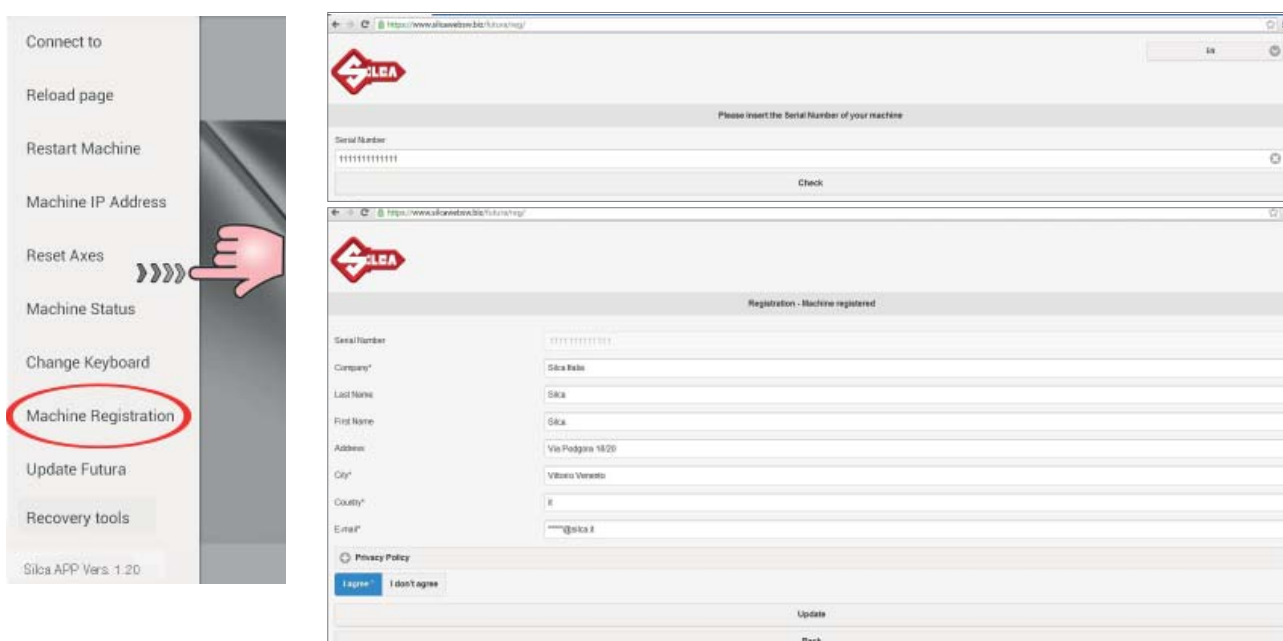

Fig. 9
- Tap “Machine registration” (Fig. 9).